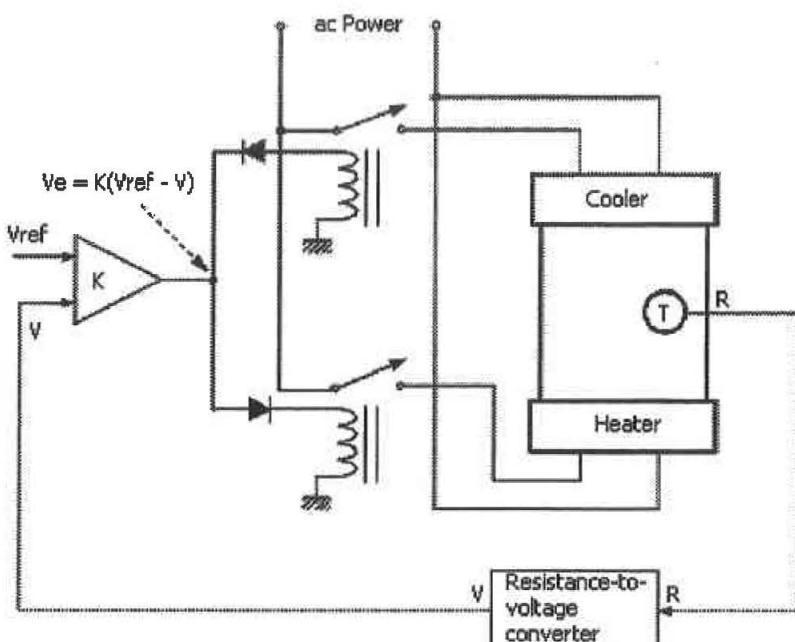

Figure 5 (Rajah 5)
- (c) Based on Figure 5, give details on how the on/off control system works